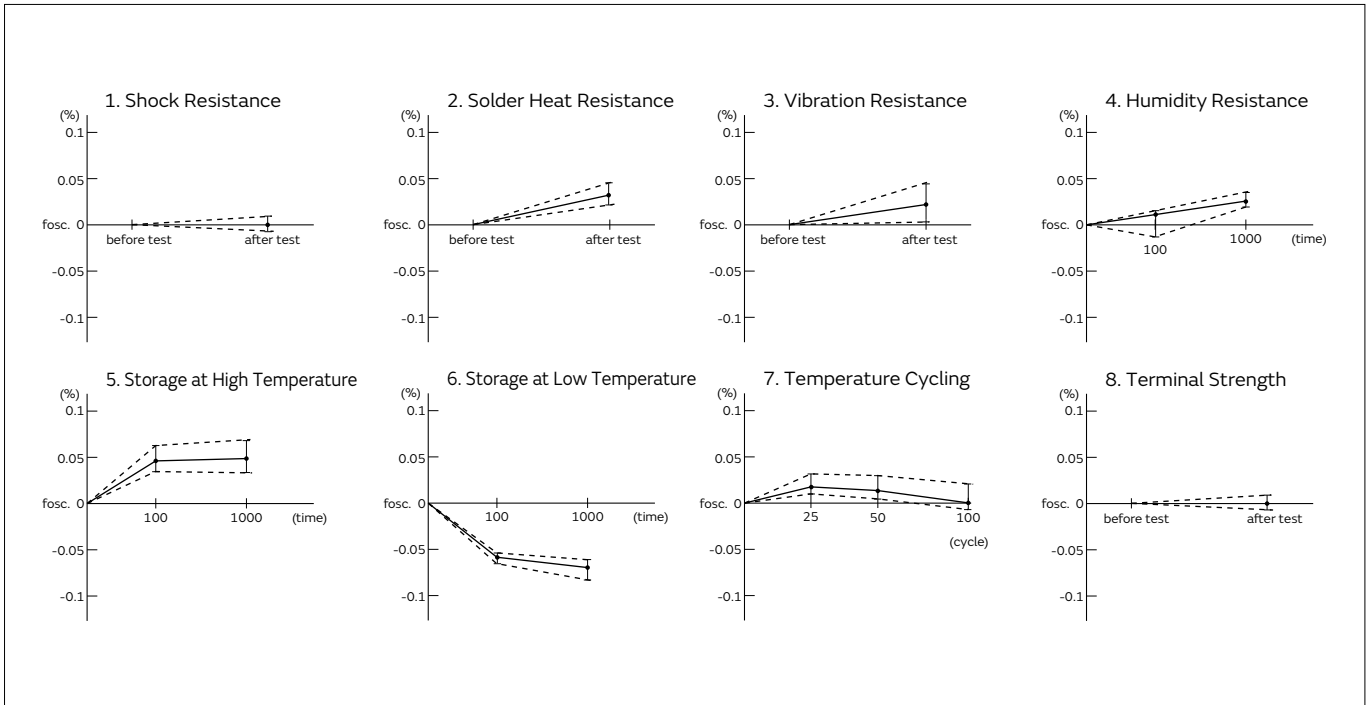
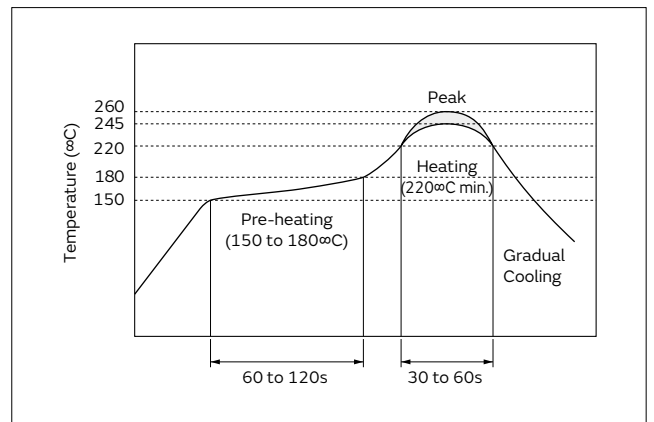

Fig. 3-2 General Changes of Oscillation Frequency in Each Reliability Test (CSTLS4M00G53-B0)
Fig. 3-3 Reflow Soldering Profile for MHz Band Chip CERALOCK
Fig. 3-2 shows the changes of oscillation frequency in each test, the table on the next page shows the criteria after the tests, and Fig. 3-3 shows the reflow soldering profile.
2. Soldering Heat Resistance	Lead terminals are immersed up to 2.0 mm from the resonator's body in solder bath of [c], and then the resonator shall be measured after being placed in natural condition for 1 hour.* 1 Reflow profile show in Fig. 3-3 of heat stress is applied to the resonator, then the resonator shall be measured after being placed in natural condition for 1 hour.* 2